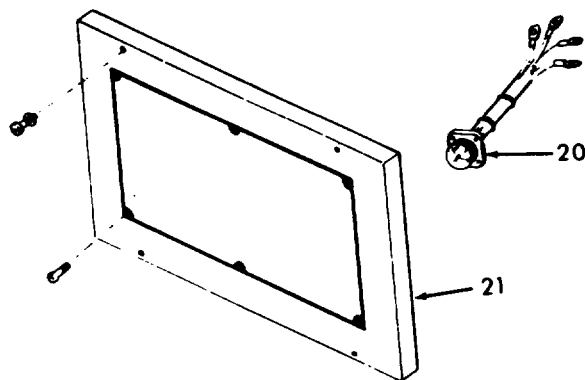

Figure 5-2. Junction Box Details
### **5.7. Description (See figure 5-2).**
- b. Pull fuses (17 and 18, figure 5-2) out of fuse holders.
- b. Insert the end of the circuit breaker reset cable (8, figure 5-2) through the hole in the connector plate (7). Install core end fitting on end of cable, then attach the sheath of the cable to the junction box with two loop clamps (9) and screws, leaving at least 1/4-inch of cable sheath below the bottom loop clamp.